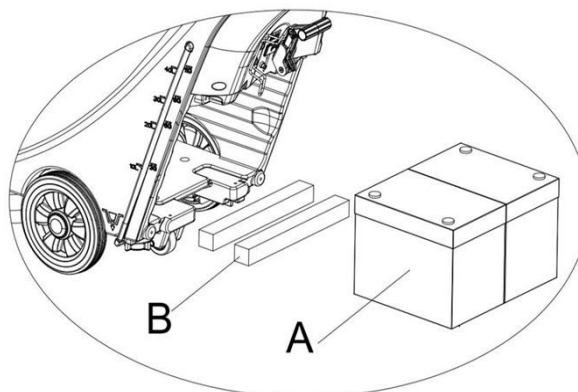

Figure 6
1. For battery with length below 270mm, use 2 pieces of the fixation board (B, **Figure 6**) and place them side by side inside the water tank battery;
2. For battery with length between 310mm-270mm, use 1 piece of the fixation board (B, **Figure 6**) and place it in the water tank battery;